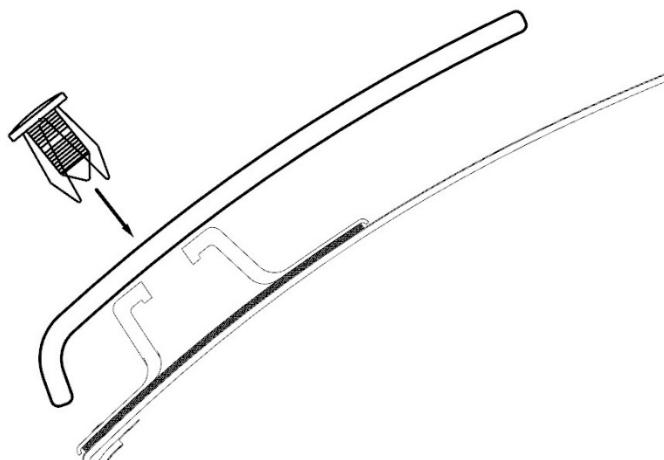

Fig 15
13. Align the (4) holes in the hood deflector with the holes in the pedestals. Insert a push type retainer through the hole in the hood deflector and into the pedestals. (Fig 15)